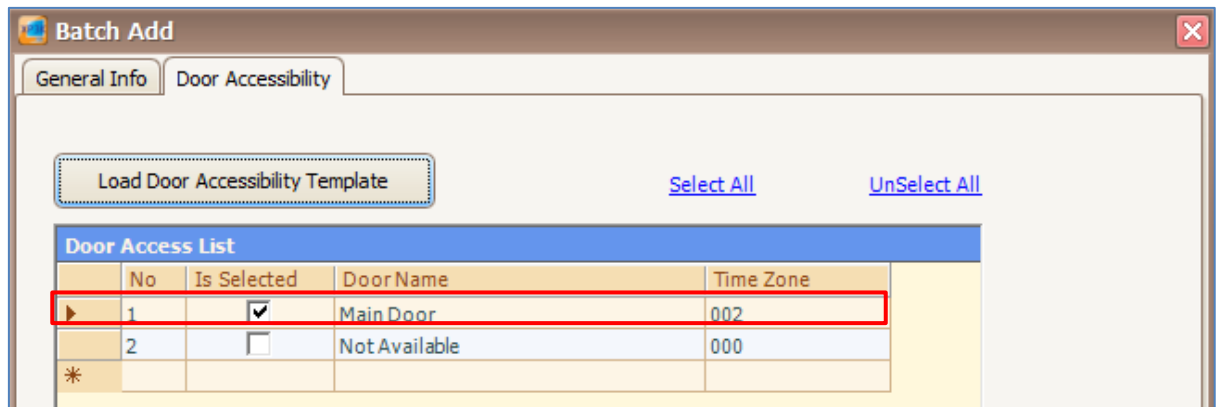

Figure 203 - Loaded Door Access
12. The following screen will be shown (Refer **Figure 203**).